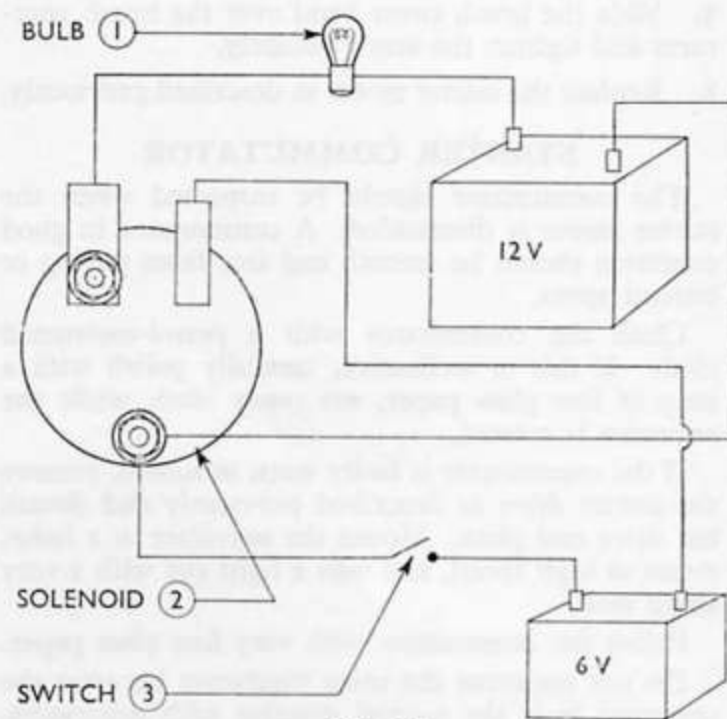

Fig. 14
- Connect, through a switch, a 6 volt supply between the solenoid small unmarked terminal and the large terminal "STA". Connect a separately energised test lamp circuit across the solenoid main terminals (see Fig. 14.)